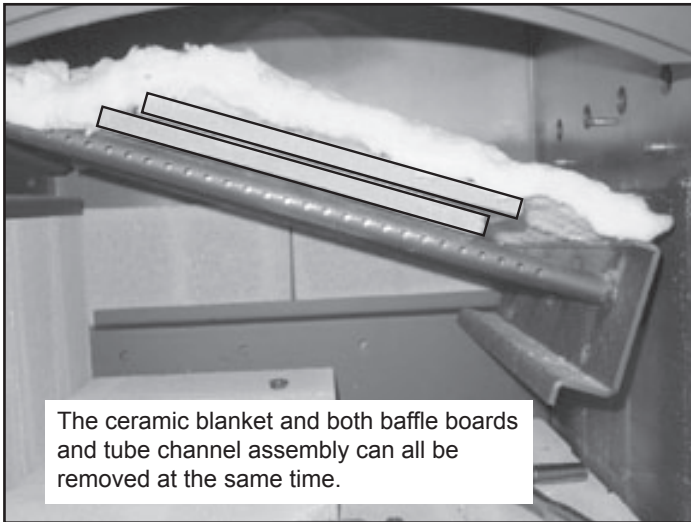

Figure 27.1
3. Once the baffle protection cover has been removed, pull the baffle boards and ceramic blanket forward about 1 inch (25mm) and then overlap the baffles about 1-2 inches (25-51mm) (**Figure 27.1**).
4. Slide the tube channel assembly all the way to left until it is off the threads. Drop the right side down, then slide the assembly back to right (**Figure 27.1 on page 27**).